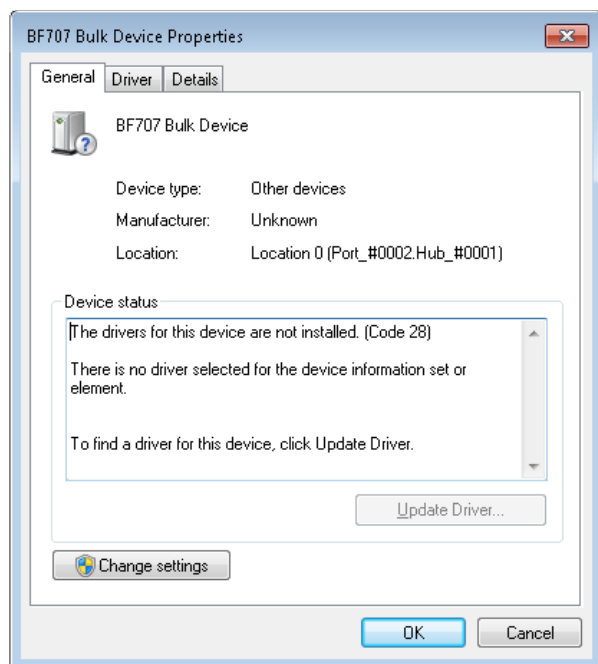

Figure 9. **BF707 Bulk Device Properties** Window
3. Click **Change settings** in the **BF707 Bulk Device Properties** window (see Figure 9). This action requires administration rights.